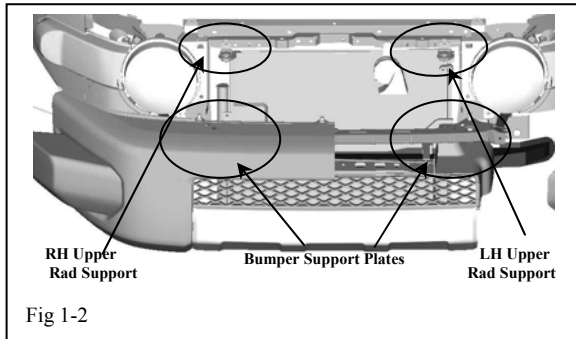

Fig 1-2
- (c) Refer to Fig. 1-2 throughout the instructions for vehicle mounting locations.